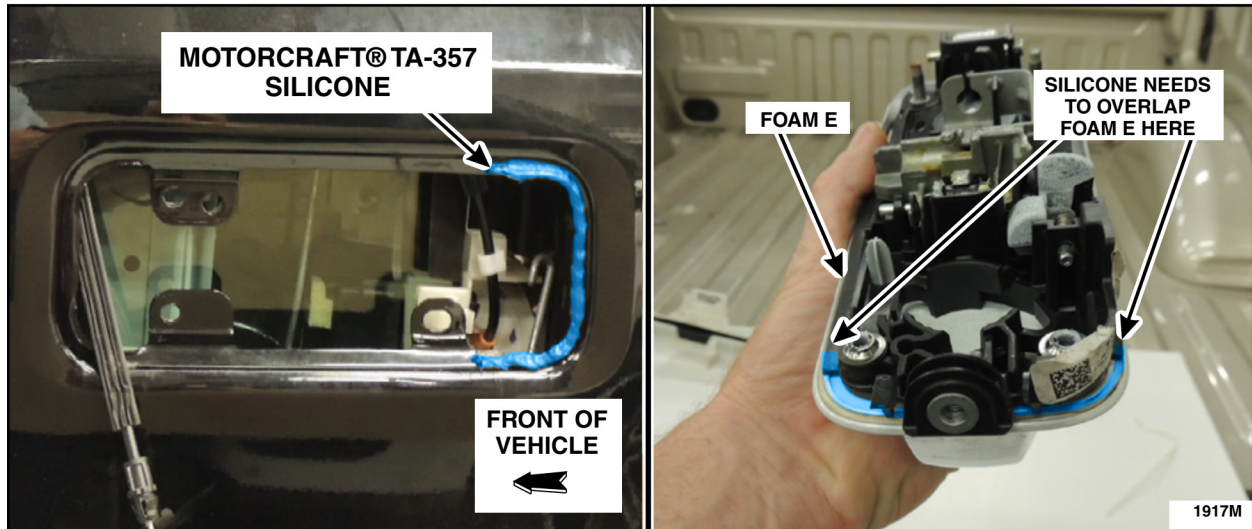

FIGURE 27
38. Apply a bead of Motorcraft® TA-357 High Performance Engine RTV silicone to the latch side area of the front door exterior handle opening metal surface. Make sure that the silicone overlaps with the foam E on the exterior door handle. See Figure 27.